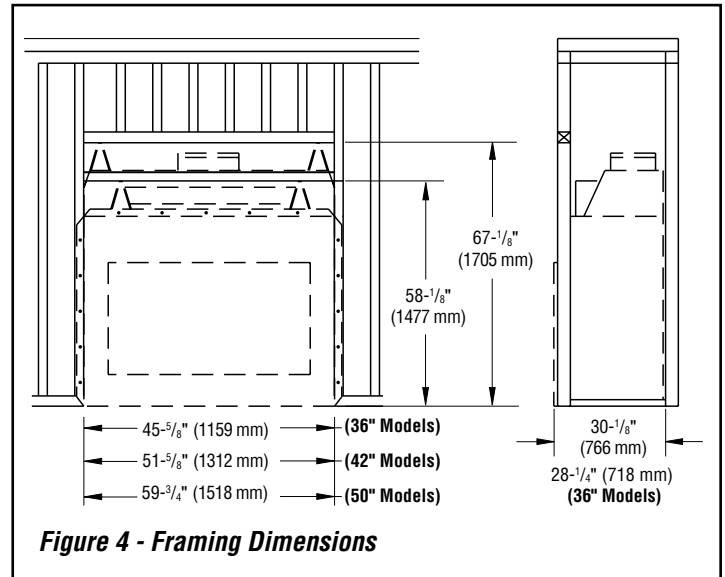

Figure 4 - Framing Dimensions
1. The location must allow for proper clearances (see **Figures 4 and 5**).
1. Frame opening for fireplace using dimensions shown in **Figures 4 and 5**.